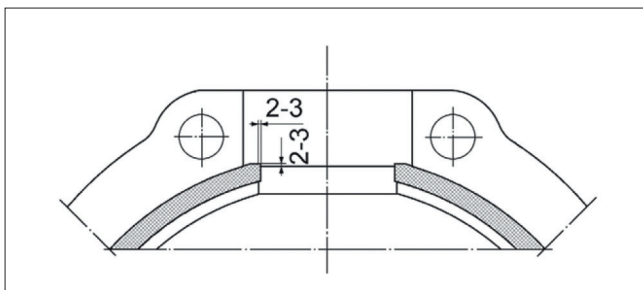

Fig. 9 Fitting and cutting the graphite gasket
- Verify the body seal groove is free of contaminate and then place a new body gasket (65) in the female body (1) groove. Fit and cut the gasket per Figure 9.